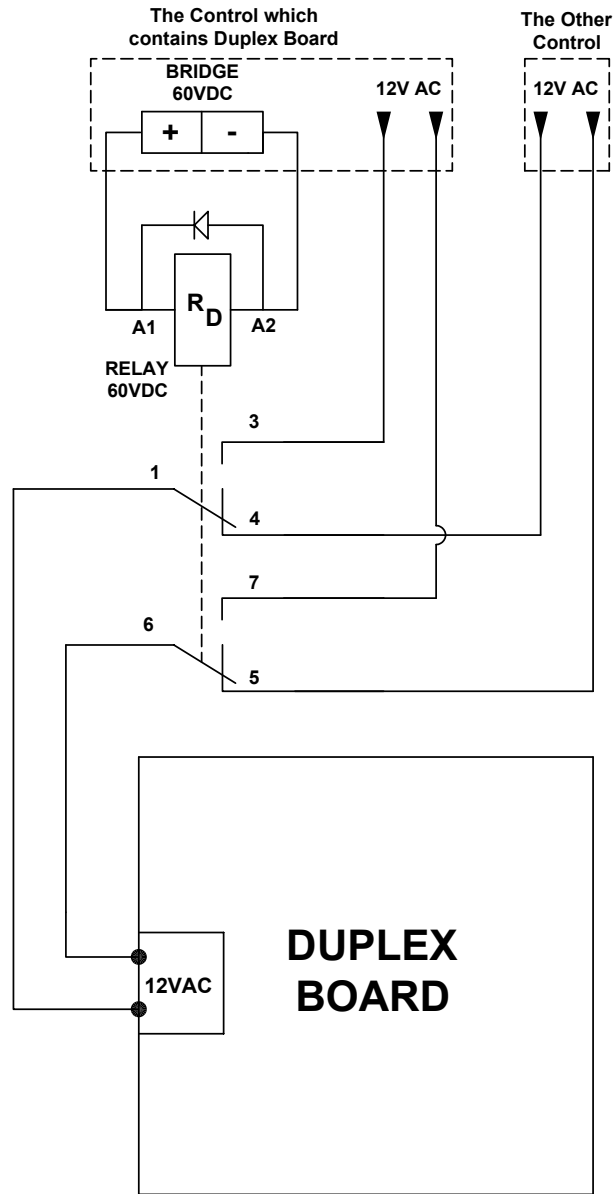

Figure 4.0 – XC-DUP Power Supply Connections
The terminals of the Power Supply are connected as illustrated in Figure 4.0.
- Figure 4.0 illustrates the connection of the XC-DUP series Power Supply with the 12V AC from the first and second control panels through an external relay, to ensure continued operations of the XC-DUP series in case of electrical power failure in one of the control panels.
- The two terminals of the XC-DUP series' Power Supply are connected to the common contacts of the relay (contacts 1 and 6 in Figure 4.0).
- The 12V AC terminal supplied from the first control panel's transformer of which the XC-DUP series is installed is connected to the NO (Normally Open) contacts of the relay (contacts 3 and 7 in Figure 4.0).
- The 12V AC terminal supplied from the second control panel's transformer is connected to the NC (Normally Closed) contacts of the relay (contacts 4 and 5 in Figure 4.0).